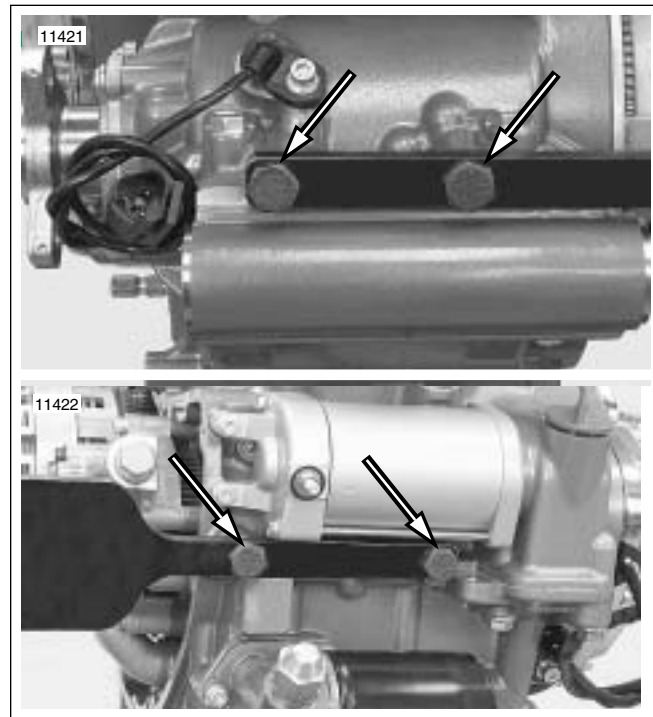

Figure 3-8. Cradle Fasteners in Upper Engine Case
1. See Figure 3-8. Using fasteners provided, install ENGINE CRADLE (HD-42310-40) to rear of upper engine case.